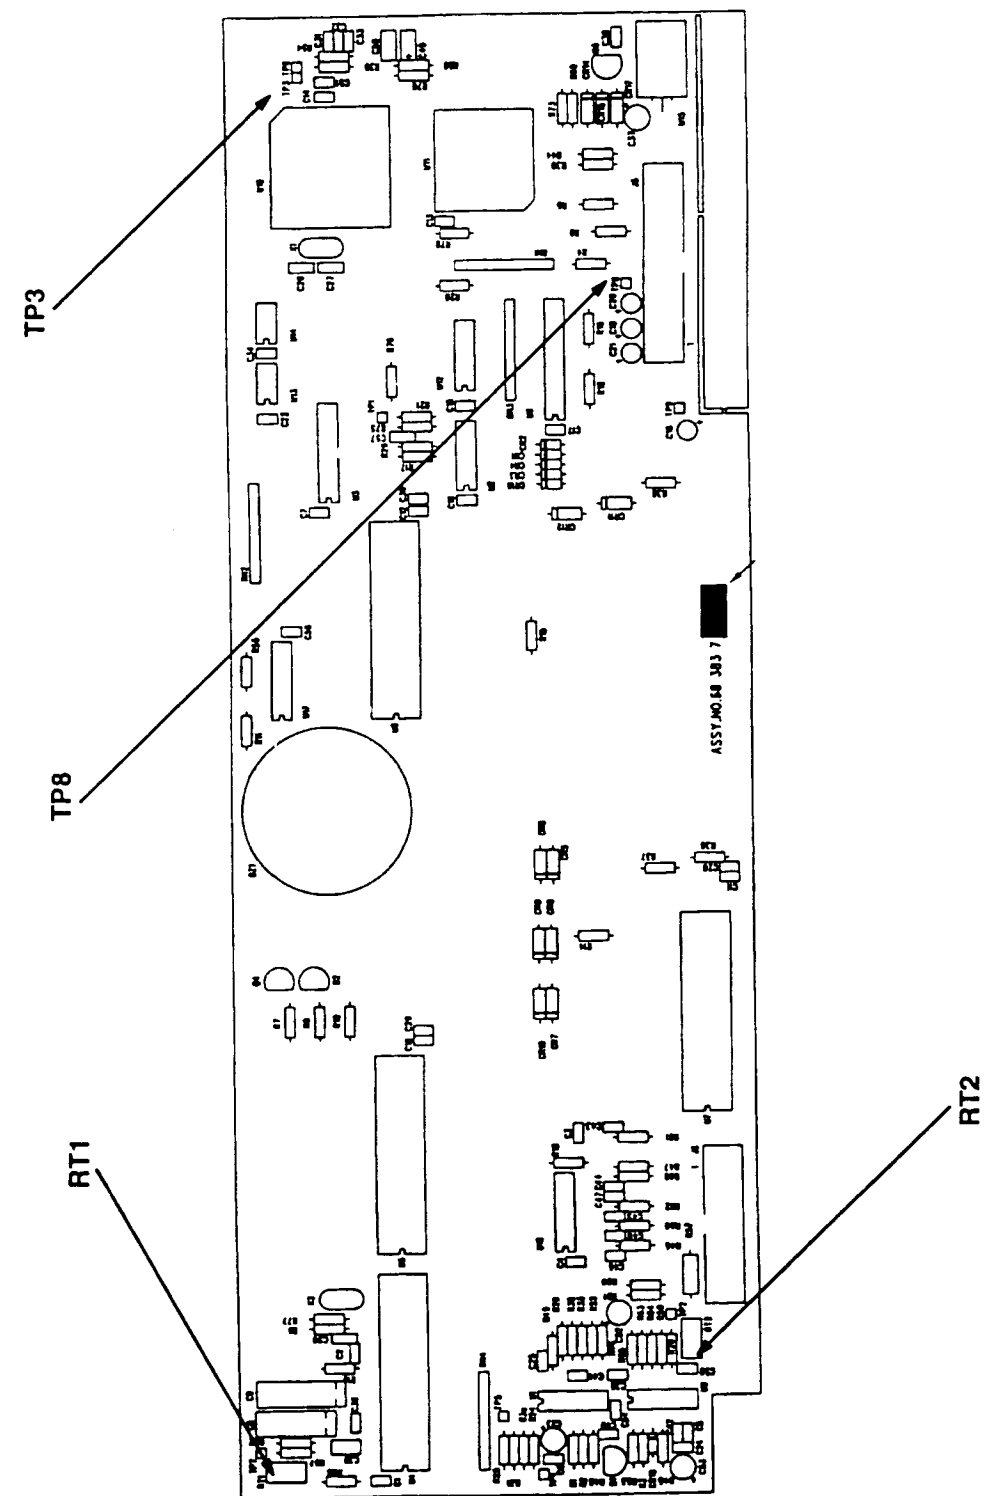

FIGURE 5.2 MAIN BOARD LOCATION OF TEST POINTS AND ADJUSTMENTS
5.3.3 MAIN BOARD (REFER TO FIGURE 5.2 FOR LOCATION OF TEST POINTS AND ADJUSTMENTS).